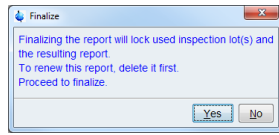

Figure 3-19: Finalize report message
33. In Finalize dialog (Figure 3-19) click **Yes** to accept, that the Inspection Lot used for the finalized report can not be used for another report.